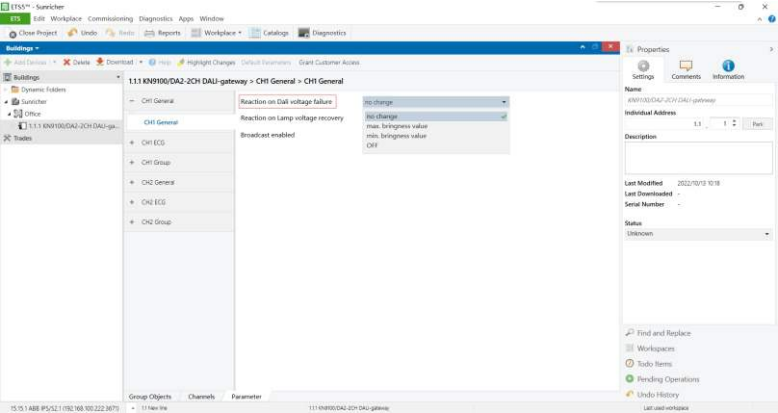

Figure 26
**Reaction on DALI voltage failure:** means reaction when CH1 DALI voltage is lost, drop down and tick a value, available settings: "no change", "max. brightness value", "min. brightness value", "OFF" as shown in Figure 26.